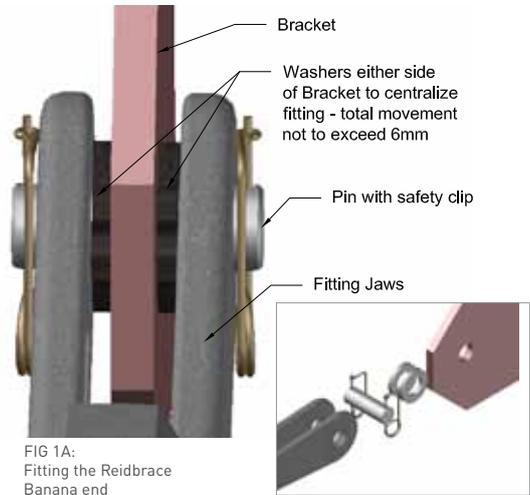

FIG 1A:
- IF THE GAP BETWEEN THE BRACKET AND THE JAWS OF THE REIDBRACE BANANA IS 6MM OR MORE, THEN WASHERS ARE REQUIRED FOR PACKING BOTH SIDES OF THE BRACKET TO REDUCE THE CLEARANCE AND EQUALISE THE FITTING - REFER TO FIG 1A AND 1B.**